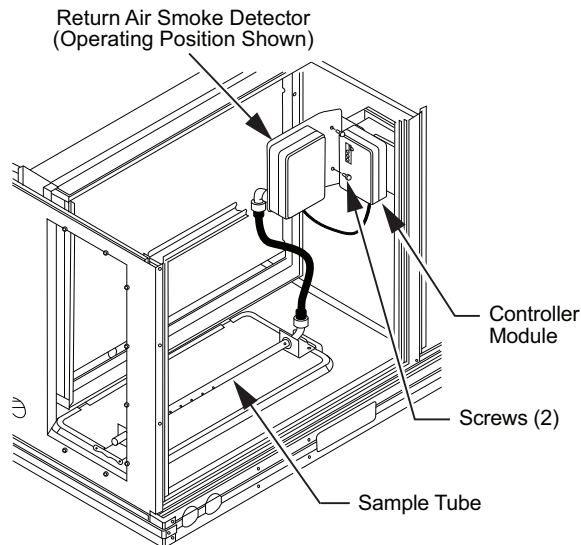

Fig. 48 — Return Air Smoke Detector Operating Position
3. Rotate the detector plate so the sensor is facing outwards and the sampling tube connection is on the bottom. See Fig. 48.